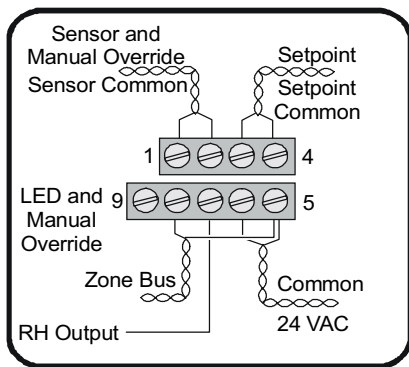

Figure 6: Terminal Block Wiring Designations
An internal wiring diagram is shown in Figure 6. The terminals are identified in Table 2. Make connections pairing the following wires:
2. Check all supply voltage connections, and make sure the wiring is correct. (Refer to Figure 6 as needed.)